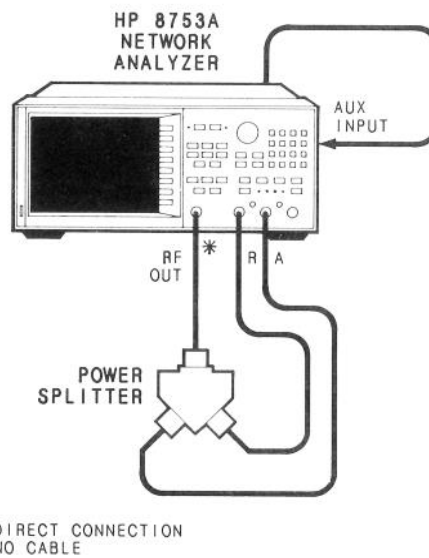

Figure 14. Cavity Oscillator Adjustment Setup.
1. Connect the equipment as shown in Figures 14 and 15. The BNC center conductor alligator-clip should be connected to A11TP10 (labeled D ERR); the shield clip to A11TP1 (GND).